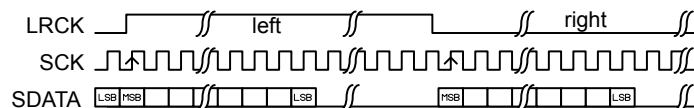

Figure 67: `CONFIG.ALIGN` set to left justified
- When using left-alignment, each half-frame starts with the MSB of the sample value, as illustrated by Figure 67: `CONFIG.ALIGN` set to left justified on page 234.